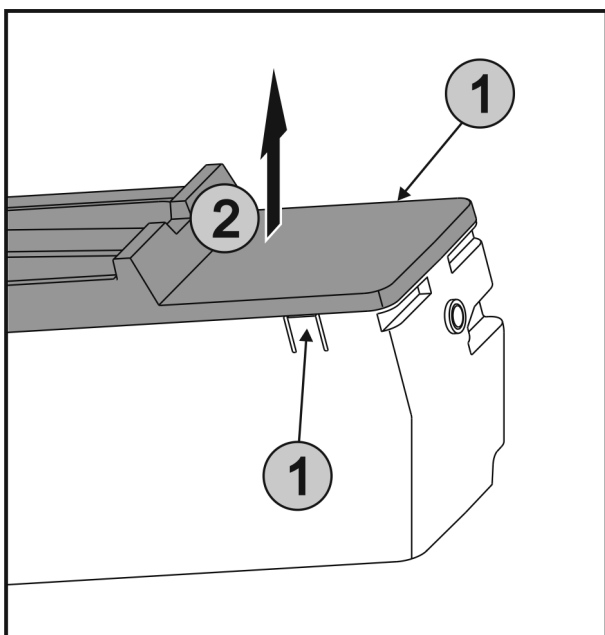

Fig. 55
- Press the lugs Fig. 55 (1) on both sides of the EasyTwist-Ice simultaneously and take off the cover Fig. 55 (2) upwards.